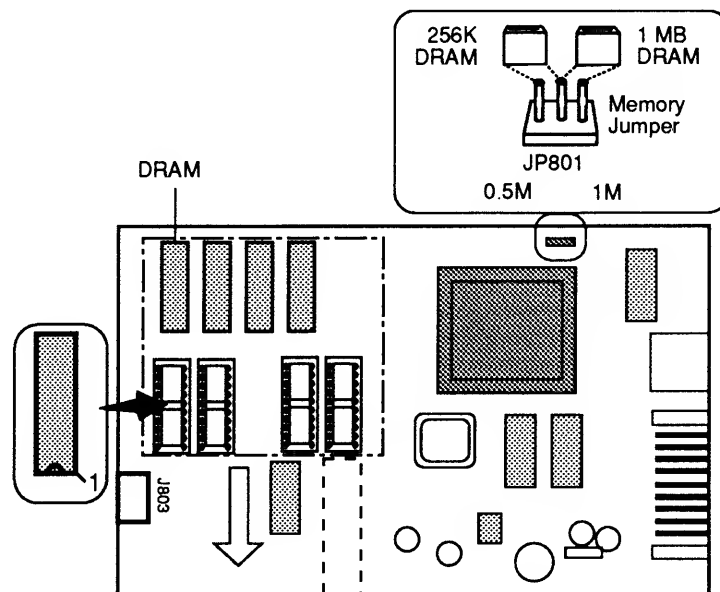

Figure 6-2 LaserWriter LS Memory Upgrade
2. Place the four 256K x 4, 150 ns (or faster) DRAM chips in position as shown in **Figure 6-2**.
3. Position jumper JP801 over the two pins nearest the **1M** marking on the I/O board (**Figure 6-2**).